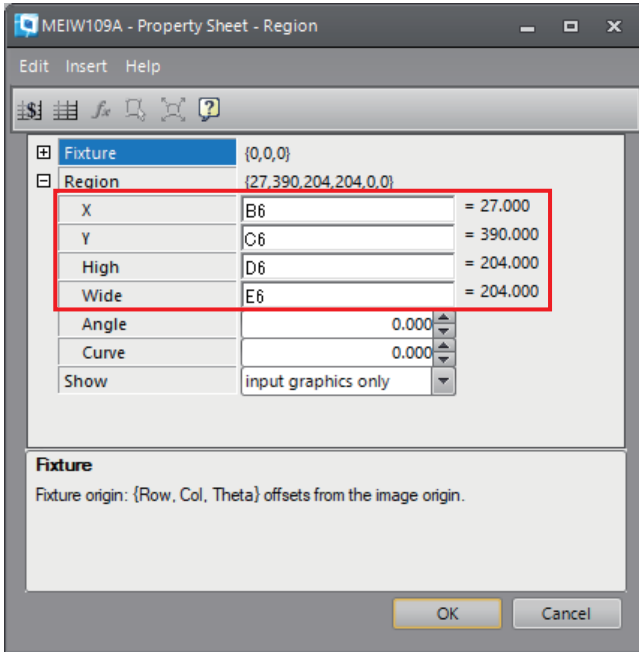

Figure 28 Region function property sheet
(3) Use the Region function to specify a region.
Refer to the information of (2) which corresponds to "X," "Y," "High," and "Wide" respectively in the property sheet of Region function (Figure 28).